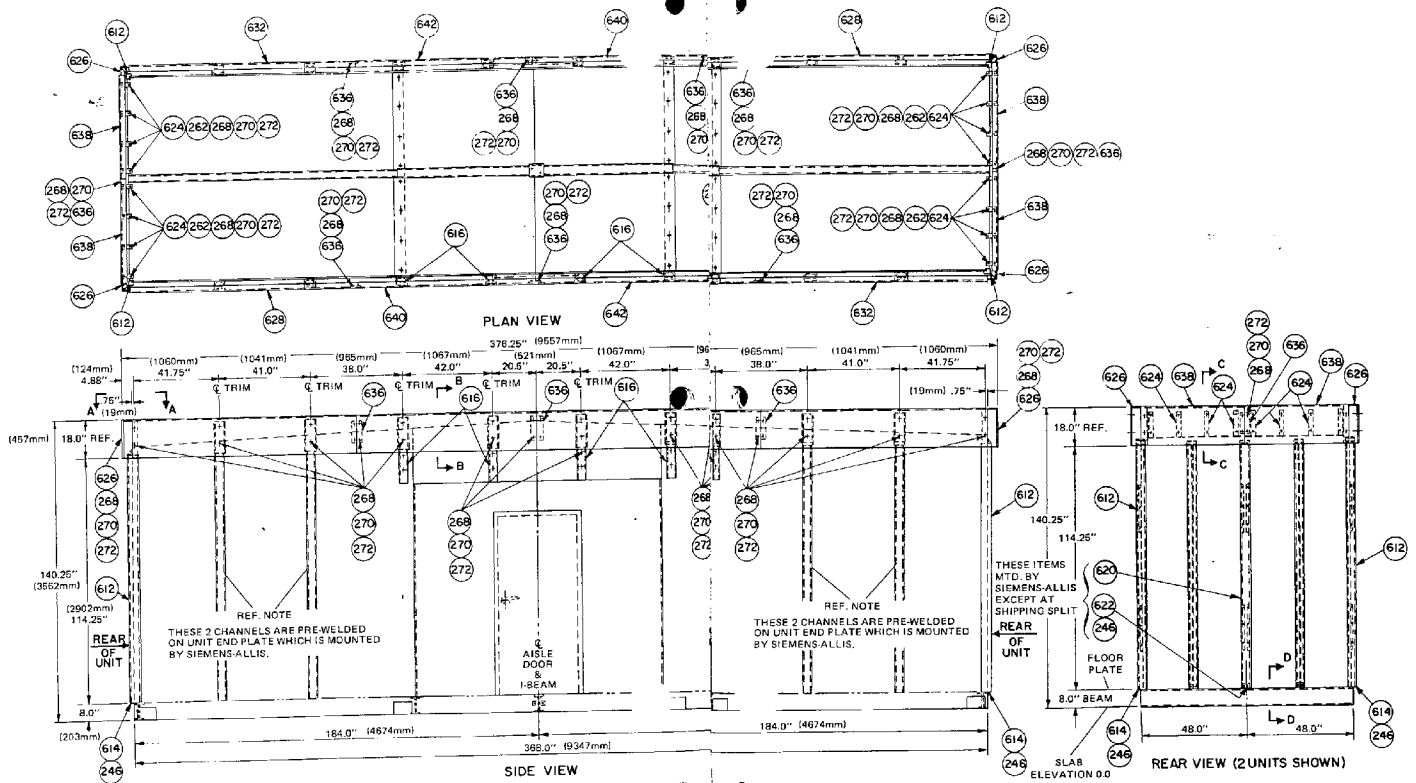

Figure 18. Trim Arrangement - Type "SIV"
18. Install aisle end side braces (616) as shown in side view Fig. 18 and Section B-B, Fig. 19 (2 per end).
19. Install roof trim supports (624) to roof decks as shown in Fig. 18 Section C-C of Fig. 19 (4 per unit).
20. Install horizontal side trim parts (628, 632, 640 and 642) using bridge trim strips (636) as shown in Fig. 18.
21. Install horizontal front and rear trim parts (638) along with bridge trim strips (636) and corner trim (612) as shown in Figs. 18 and 19.
22. After primary cables, terminators, LA's, etc. are mounted and primary entrances are ready for closing, the rear panels should be closed and bolted shut using four (4) tamperproof screws which were provided with these units as shipped. The unit rear trim is then completed by installing vertical trim channels (620) in same manner as described for corners under step 16. Install bottom covers (622) using tamperproof screws (246). See Figs. 18 and 19.